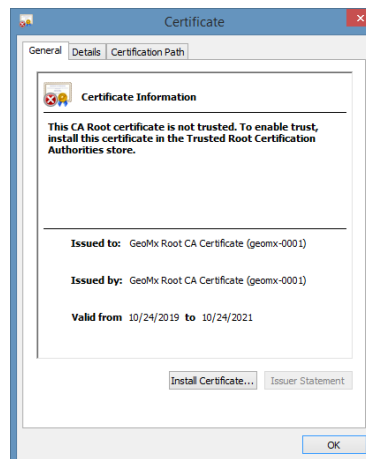

Figure 79: Install certificate window
6. Click the **Install Certificate** button (see Figure 79).